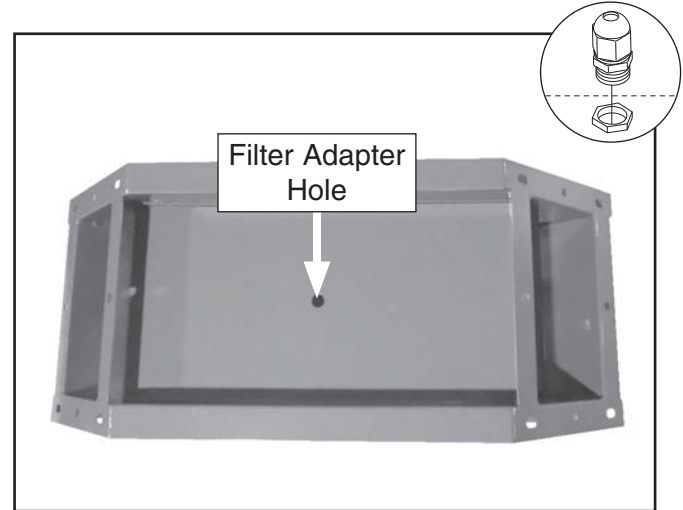

Figure 5. Location of filter adapter hole.
1. Remove (1) nut from strain relief, then use nut to secure strain relief to hole in filter adapter (see **Figure 5**).